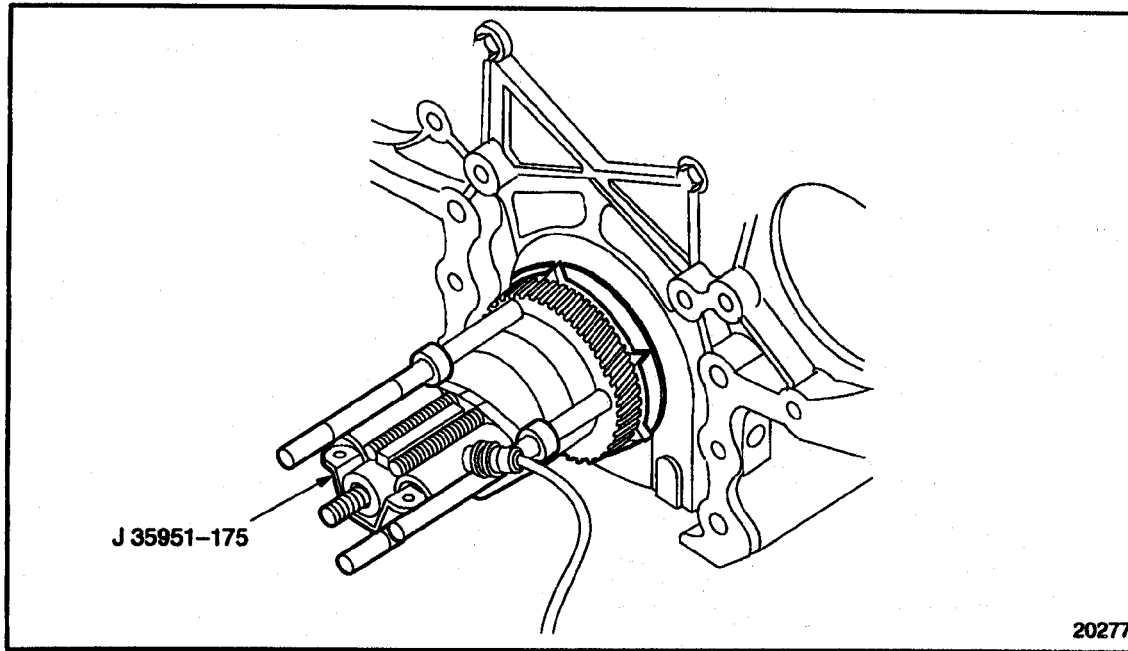

Figure 1-387 Hydraulic Ram Installation
12. Slide the hydraulic ram, J 35951-175, over the center rod of, J 35642-1 part of J 35642 and all the way to the base. See Figure 1-387.
- [b] Loosen and remove the three retaining nuts on, J 35642-2 part of J 35642 against the pressure plate. See Figure 1-387.